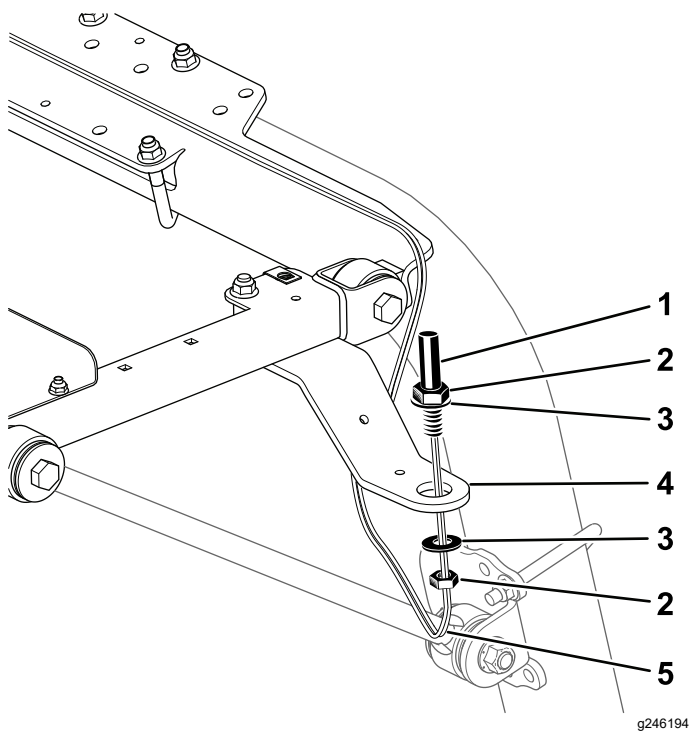

Figure 8
5. Install the beacon socket to the bracket as shown in Figure 8.